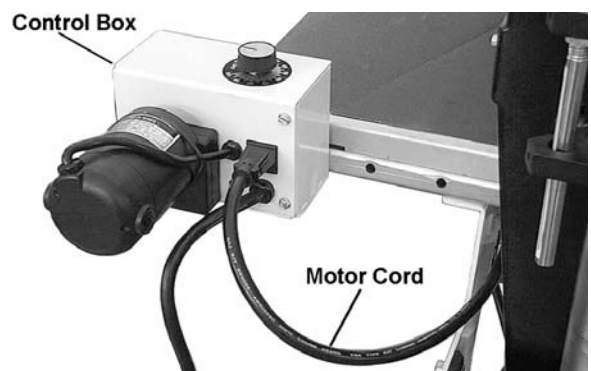

Figure 6
2. Place the *conveyor table* (O) on the mounting brackets of the stand. The *gear motor* should be on the right as shown.
3. Secure the *conveyor table* with four each 3/8"x1" *hex cap screws* (B), 3/8" *flat washers* (H) and 3/8" *flanged lock nuts* (E).
4. Plug the motor cord into the control box receptacle (Figure 6).